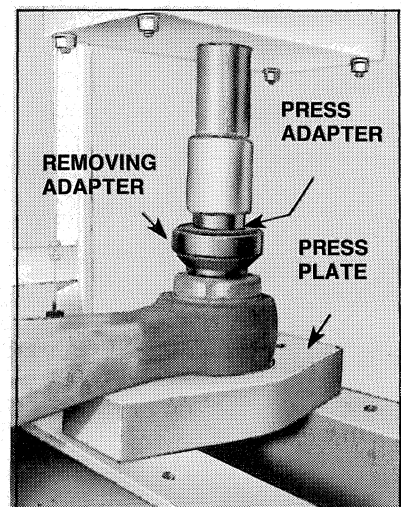

FIGURE 3
1. Place the Press Plate (Item 1) on the press bolster. Position the equalizing beam on the press plate. Position the Removing Adapter (Item 7) and the Press Adapter (Item 6) onto the end bushing to be removed as shown in Figure 3.